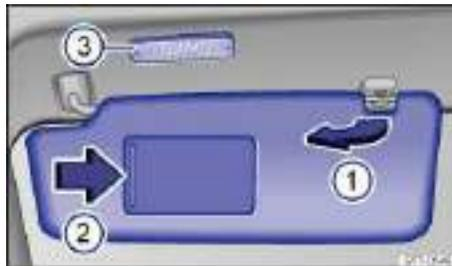

Fig. 85 In the headliner: Sun visor.
- Lift it out of the retaining clip ⇒ fig. 85 (1) and swivel it over toward the door.